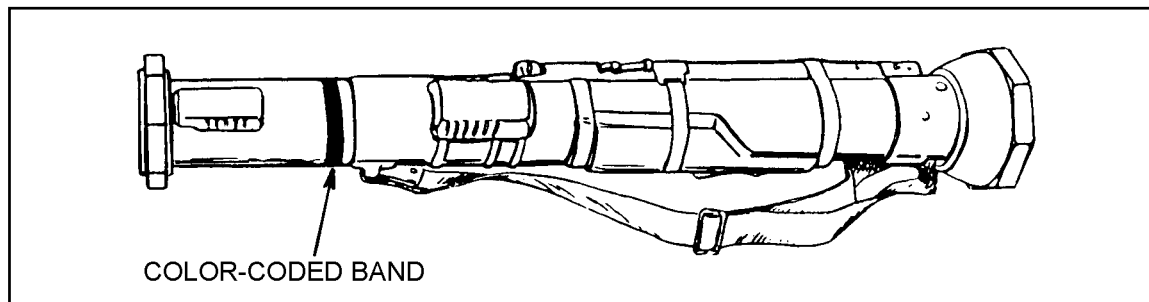

Figure 3-5. Location of color-coded band.
c. **Color-Coding.** M136 AT4 launchers are marked with color-coded bands (Figure 3-5). A black with yellow band indicates an HE antiarmor round (early models had a solid black band). A gold or yellow band indicates a field handling trainer; no band indicates an M287 9-mm tracer bullet trainer (Appendix B).